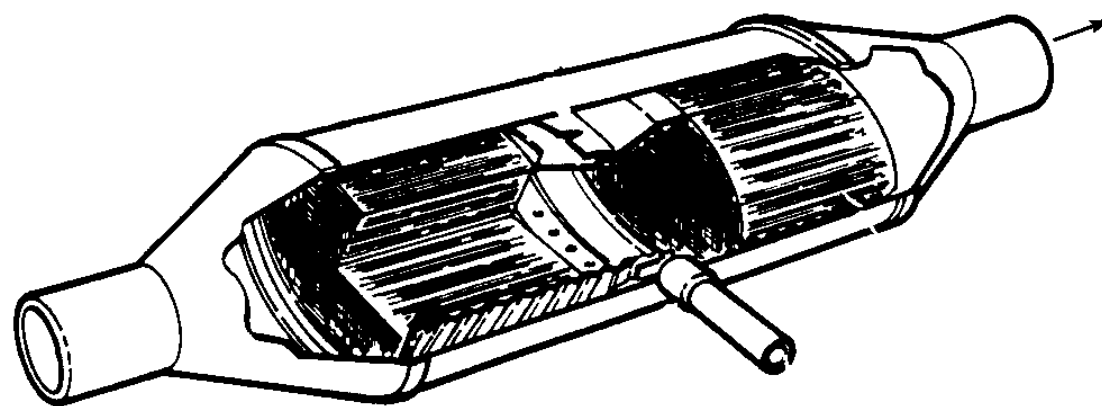

Fig. 10: Typical Three-Way + Oxidation Catalytic Converter
This system contains a TWC converter and an OC converter in a common housing, separated by a small air space. See Fig. 10. The 2 catalysts are referred to as catalyst beds. Exhaust gases pass through the TWC first. The TWC bed performs the same function as it would as a separate device, reducing all 3 emissions. As exhaust gases leave the bed, they pass through the air space and into the second (OC) converter catalyst bed.